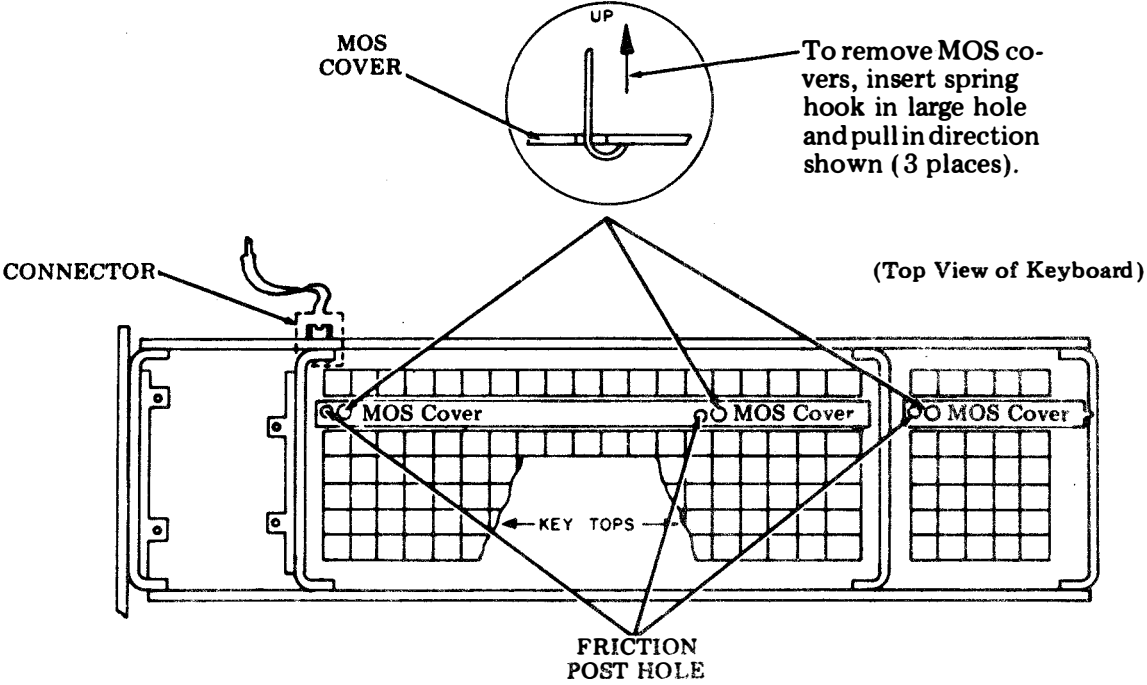

Fig. 10
3.08 With the keyboard cover removed, remove the MOS covers as shown in Fig. 10.